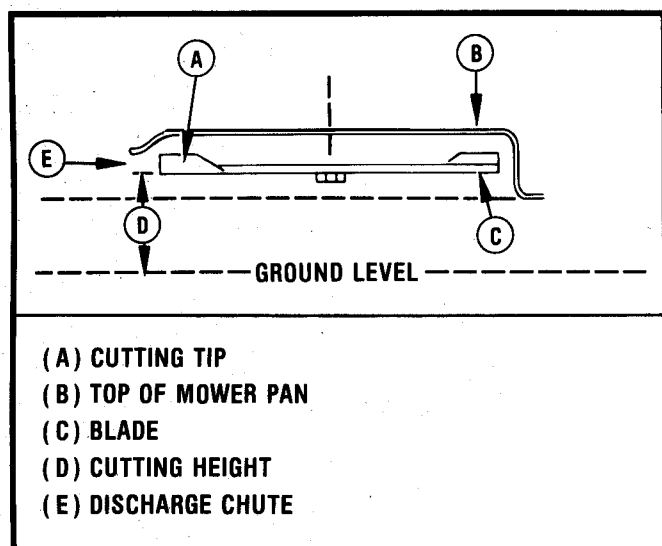

FIGURE 12-5
1. Normally, a range of approximately 1"-4" of cutting height is possible. You may adjust this with the new lift link assemblies as described in the following "ADJUSTMENT PROCEDURE" section. In order to check your cutting height, measure the distance from the ground level to the cutting tip of the mower blade with the blade tip at the discharge opening. See Figure 12-5. Rotate the blade using a glove or padding with the Mower Clutch disengaged, "OUT", and check with the Mower Height Lever in either the highest or lowest position.